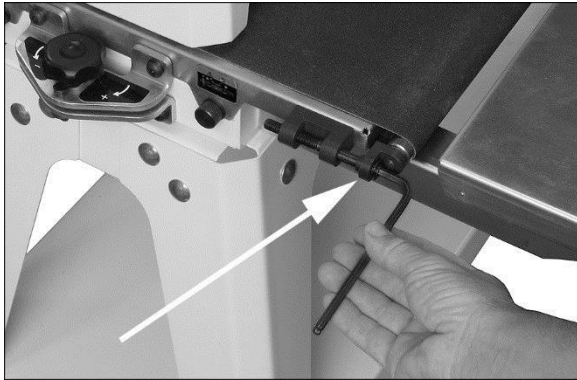

Figure 8-2: belt tension adjustment
- Adjust take-up screw nuts (Figure 8-2) with 5mm hex wrench. Do this on both sides of conveyor to obtain approximately equal tension on both sides of sanding belt when taut.